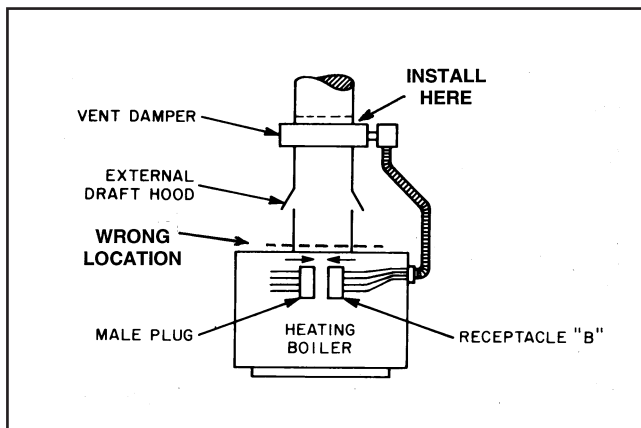

Figure 3. Vertical Installation
4. Select a proper, convenient location (see figures 3, 4, 6 and 7).
2. This device must be installed on top of the draft hood or diverter in position as shown in figures 3, 4, 5, 6 and 7. The vent damper must be installed so that the damper position indicator is in a visible location after installation for position indicator description. The arrow imprint on the damper should point in direction of vent gas flow (towards chimney). Flue pipe (other than flue collector on boiler) insertion depth for the male end should not exceed one inch into the vent damper. Be sure the vent damper is well seated and fasten with 3 sheet metal screws. Screws should be no longer than 1/2 inch.